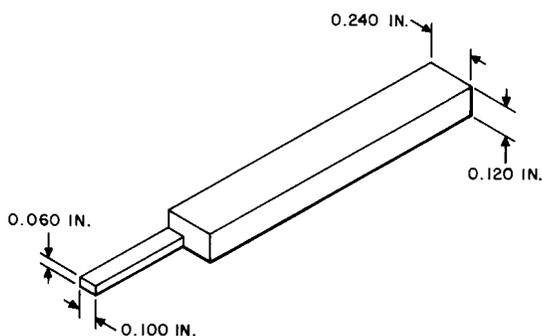

Fig. 3—A27580 Solenoid Adjusting Tool
- (1) Manually press the plunger against the solenoid seat and loosen the 3/16-inch hex nut at the rear of the plunger. Insert the proper size side of the B27580 adjusting tool (Fig. 3) between the rubber washer next to the 1/4-inch nut at the rear of the solenoid and the solenoid body.
- (2) Adjust the distance between the rubber washer next to the 1/4-inch nut and solenoid body to the tool size and tighten the 3/16-inch nut. Remove the tool.